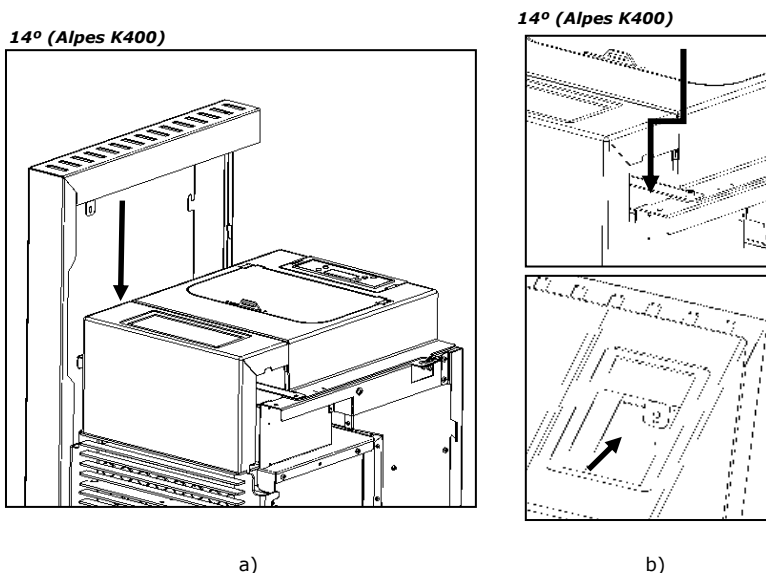

Figure 63 - Attach the tabs to the side frames
p) The upper tab r previously mentioned must pass between the finish front and the structure of the machine as shown in Figure 63. In the case of Alpes K300 Tab is not visible.